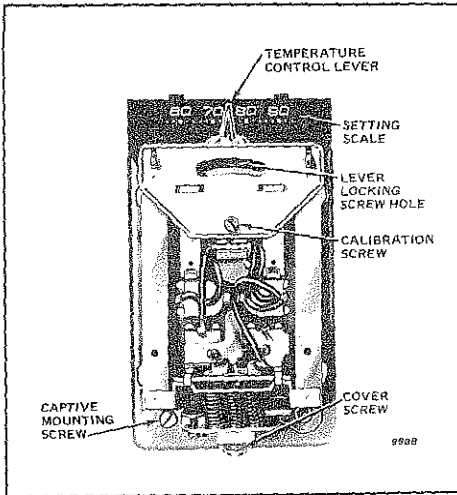

Fig. 7—Internal view of T651A.
The temperature control lever can be locked at a set temperature. To use, insert screw in lever locking hole (Fig. 7), then set the control lever to the desired temperature and tighten the lever locking screw.
2. Turn the calibration screw (Fig. 7), clockwise until snug.
3. Set the temperature control lever on the mark of the scale that corresponds to the cover thermostat reading (Fig. 7).